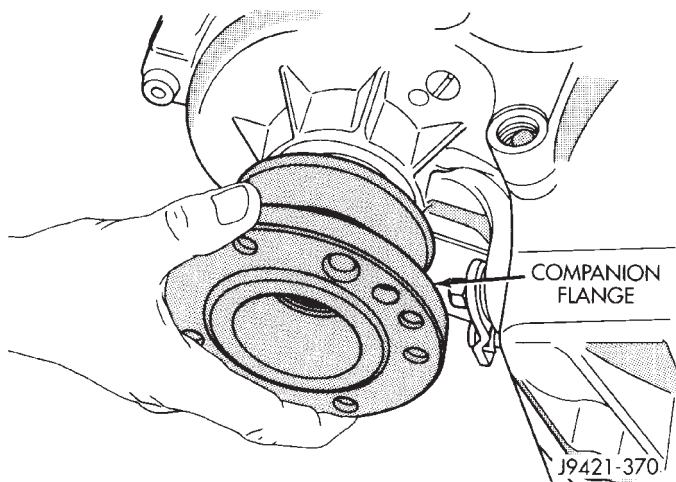

Fig. 8 Installing Companion Flange On Front Shaft
(3) Install companion flange on front shaft (Fig. 8). Then install and tighten flange nut to 176-271 N·m (130-200 ft. lbs.) torque.